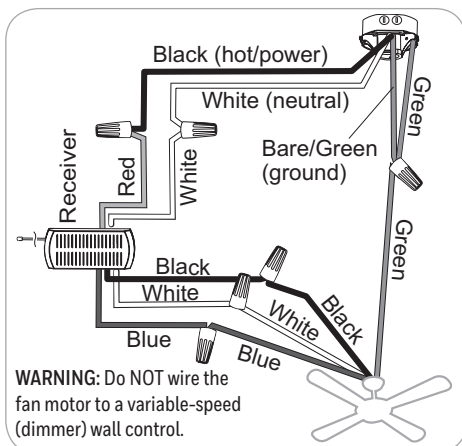

Figure 5.1
1. Use wire connectors to connect household supply and receiver wires according to the diagram (Figure 5.1) and the following steps: